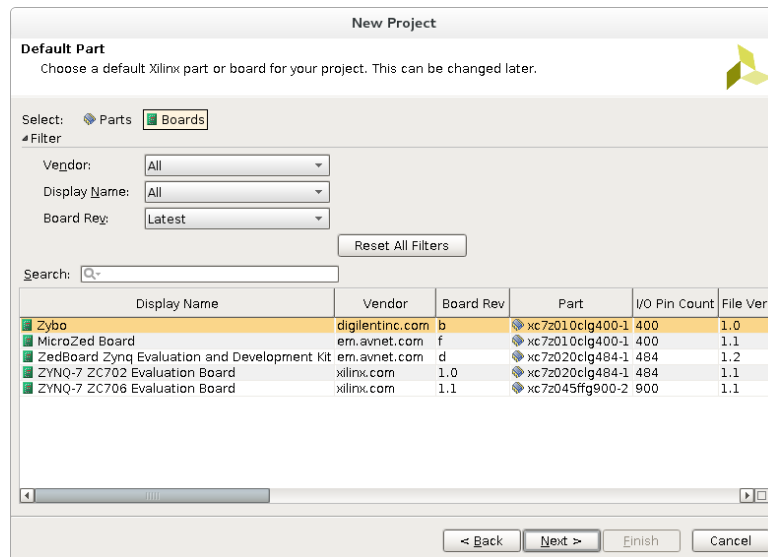

Figure 2: ZYBO Board
1. To begin, open vivado and create a new project as shown in previous lab with one exception. In the Default part window, click on 'Boards' and select 'Zybo' as shown in Figure 2. As discussed in Lab 1 we will select hardware using the 'Board' tab from now on.